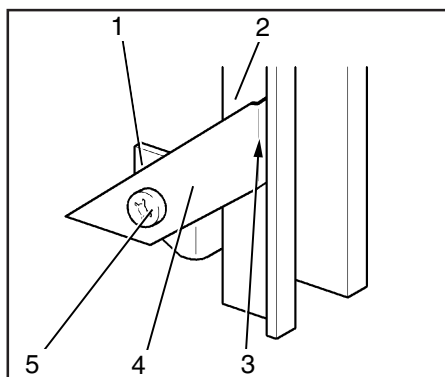

Fig. 22 Installation of removable rail stop (lower exit)
2. Install the pawl on the bracket with the Philips screw (22/5) as shown in Fig. 22. The bevelled area (22/3) must face the arrester rail.